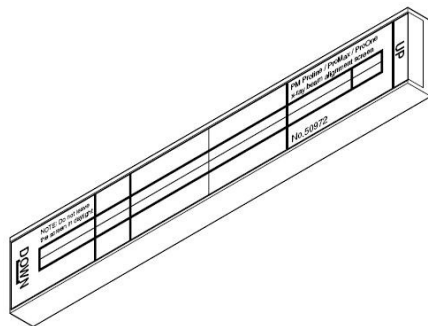

Figure 3
- Beam alignment tool, fluorescent screen, (part number 50972) used for checking the position of the x-ray beam. (Figure 3)